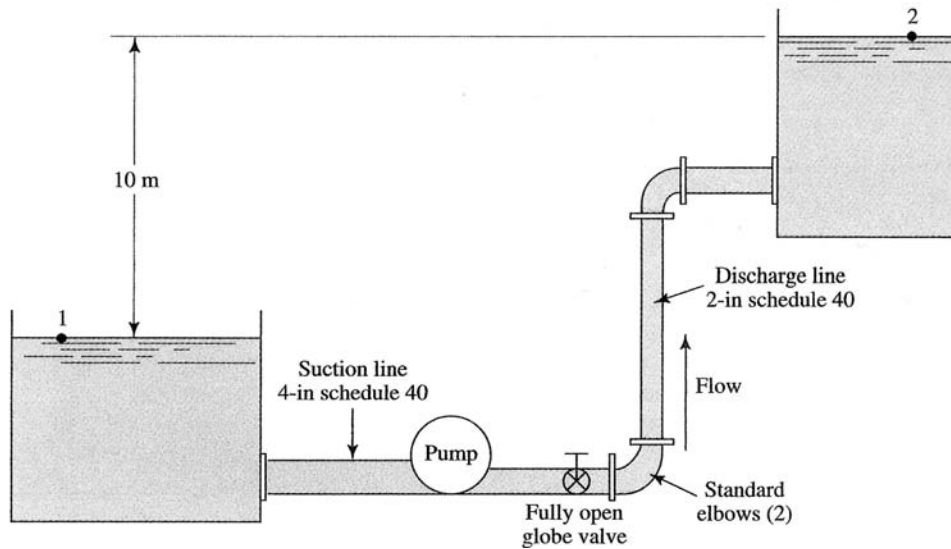

Figure 3: Pump/pipeline configuration
6. Calculate the power supplied to the pump shown in Figure 3 if its efficiency is 76%. Methyl alcohol ($\rho = 790 \text{ kg/m}^3$, $\mu = 5.6 \times 10^{-4} \text{ Pa} \cdot \text{s}$) is flowing at the rate of $54 \text{ m}^3/\text{hr}$. The suction line is a standard 4-in steel pipe, 15 m long. The total length of 2-in steel pipe in the discharge line is 200 m. Assume that the entrance from reservoir 1 is through a squared-edged inlet and that the elbows are standard. The valve is a fully open globe valve. The roughness of the pipe is $\epsilon = 0.045 \text{ mm}$.